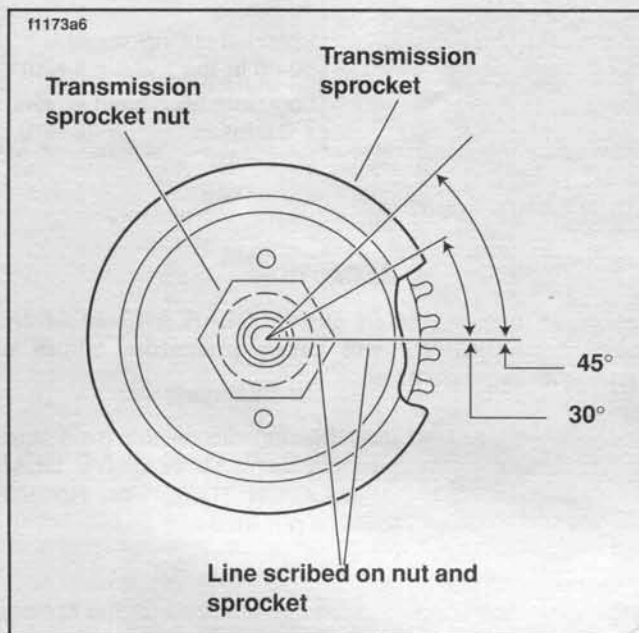

Figure 7-26. Transmission Sprocket Nut Final Tightening Procedure
If main drive gear (9, Figure 7-26) was removed, install it now, following the procedure outlined later in the section under MAIN DRIVE GEAR.
7. See Figure 7-26. To remove main drive gear:
- a. Remove retaining ring (7).
2. See Figure 7-26. Install the quad seal (25), spacer (5) and sprocket (4) on the main drive gear (9). Coat the threads of sprocket nut (2) with Loctite 262 (red) and install on the main drive gear.
- See Figure 7-26. Scribe a line on the transmission sprocket nut and transmission sprocket.